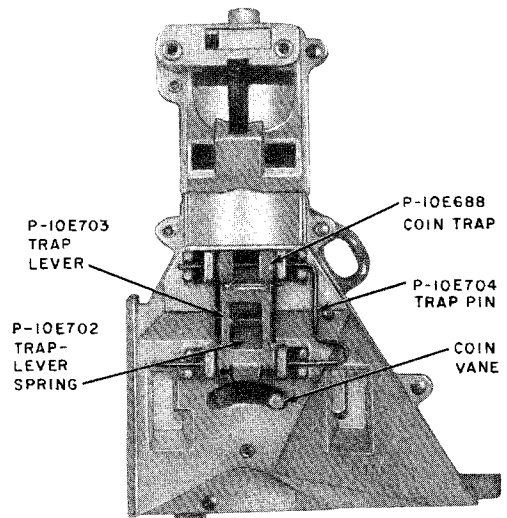

Fig. 2—Coin Trap and Trap-Lever Assembly
- (1) Move vane to right (Fig. 2).
- (2) Remove trap pin by sliding vertical portion over boss on front of hopper and sliding to the right.
- (3) Turn coin trap sideways and remove through opening. ♦If P-10E702 trap lever spring (Fig. 2) exists, it can be removed from trap lever and discarded or left in place if desired.♦